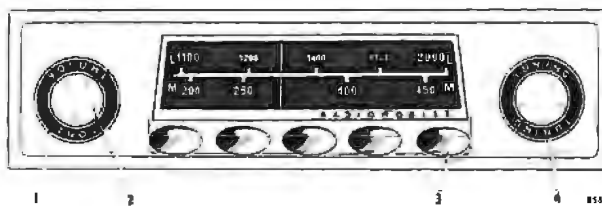

Fig. M11 (S) Radio controls 620T receiver
The radio receivers fitted, with the exception of the 230 R and Pye TCR 2000/E consist of all-transistor units utilising nine transistors and two germanium diodes, operating directly from the 12 volt battery supply. The circuit comprises tuned aerial and R.F. amplifier stages, frequency changer and one stage I.F. amplification, demodulator, and a direct-coupled A.F. pair. The direct coupled A.F. pair drives a push-pull emitter follower stage which in turn drives the push-pull stage. The output stage is transformer coupled to a twin speaker balance-control circuit. Continuously-variable tone control is provided in conjunction with negative feed-back from the output transformer to the driver stage input. The receiver and controls are shown in Figure M11(S) of this Supplement.